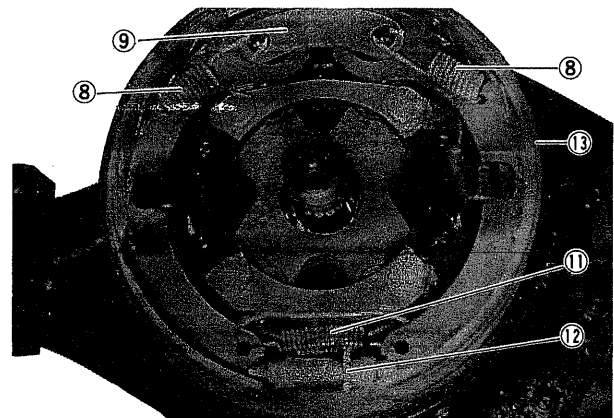

Fig. 154
- (2) Take off springs (8), (11) and remove plate (9) and adjuster (12). Then, remove brake shoes (13). (Fig. 152, Fig. 154)